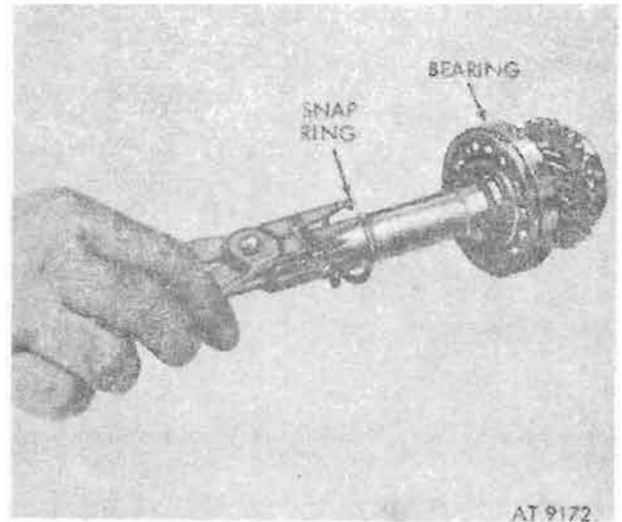

Figure 8-39. Input shaft bearing retaining snapping.
c. Using snapping pliers remove snapping securing bearing on input shaft (fig. 8-39).
b. Install new snapping to secure bearing on shaft (fig. 8-39).